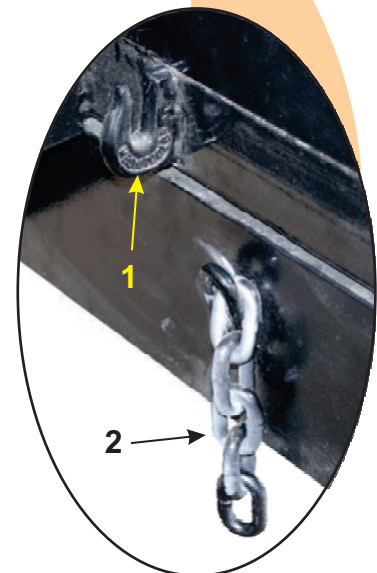

Figure 3-14 – Trailer Dump Body Latch Chain Released
- a. Release the trailer lock chain (2, Figure 3-14) from the dump bed lock hook (1, Figure 3-14) before raising the trailer.